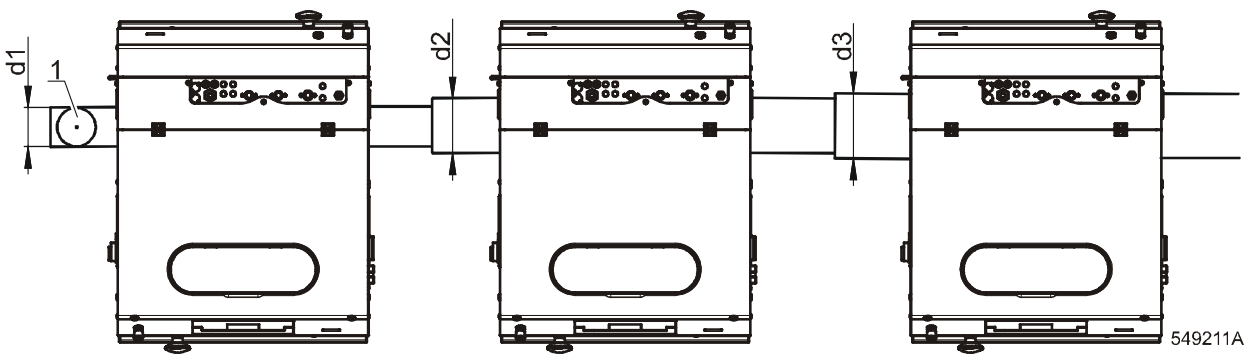

Figure 21 – Recommended drain pipe diameters
- The main drain channel-pipe must have the capacity to be able to handle the total output of all connected machines. In a drainpipe, a deodorizer must be provided every twenty meter, Figure 21., pos.1 to assure the good working of the drain pipe. If the main drain pipe cannot be sufficiently deodorized, install a deodorizer per machine. Every time a machine is coupled on the drainpipe, the diameter of the tube or the width of the waste channel must be more, see d1, d2, d3.